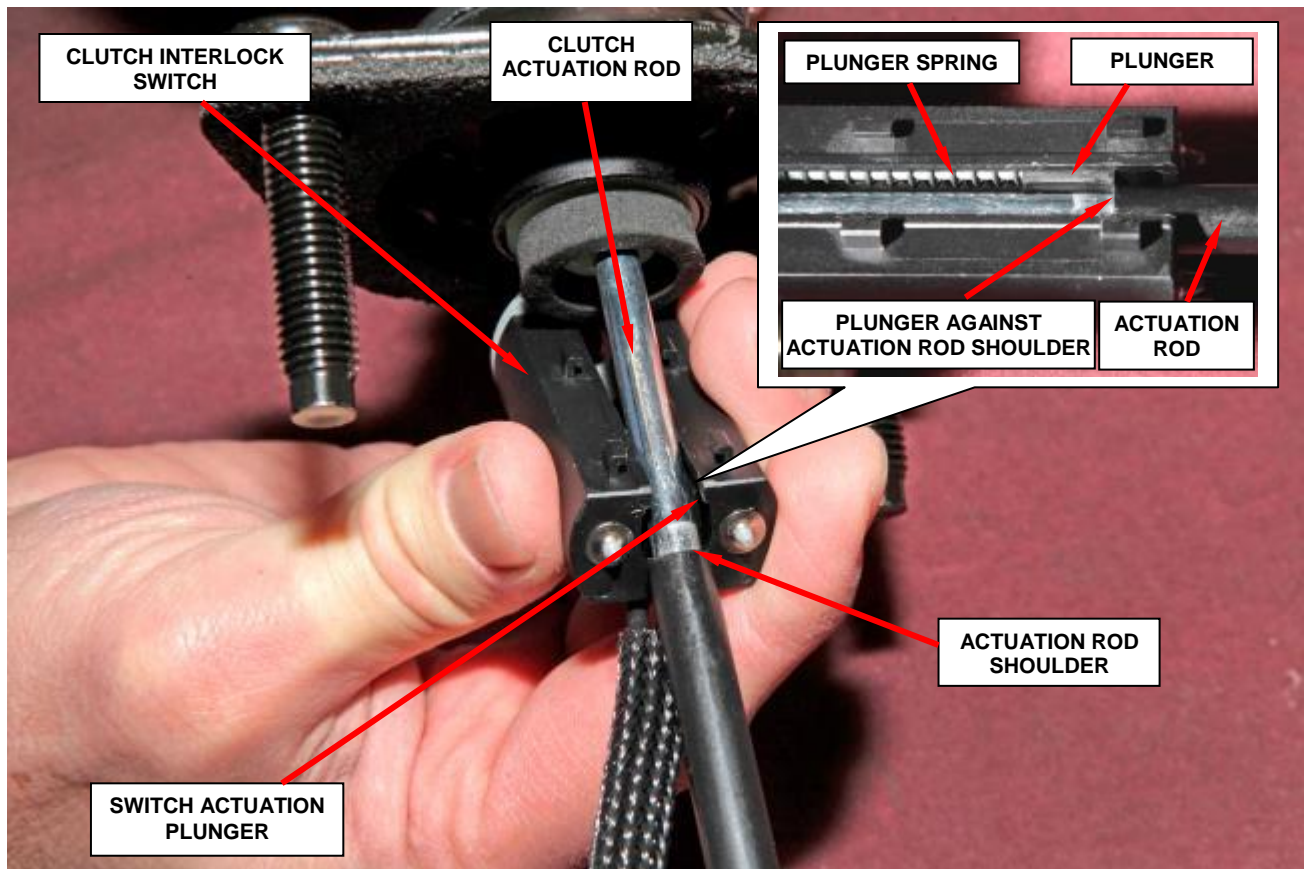

Figure 4 – Clutch Interlock Switch Installation
- b. Place the new switch against the clutch rod at an angle (Figure 4).